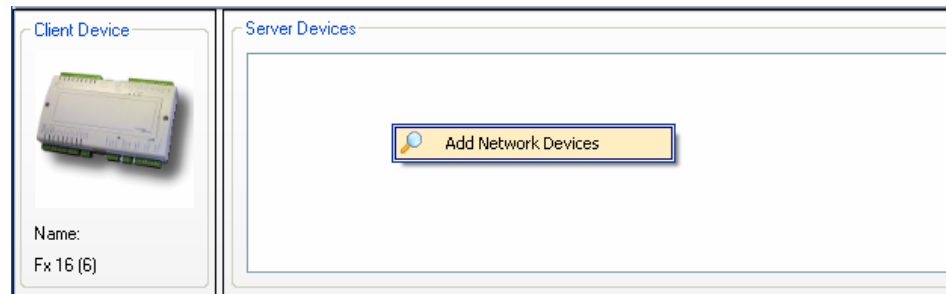

Figure 47: Add Server Devices
2. Right-click the Server Devices area and select Add Network Devices (Figure 47). The Select Server Devices window appears, listing devices on the network that you can select to be servers.